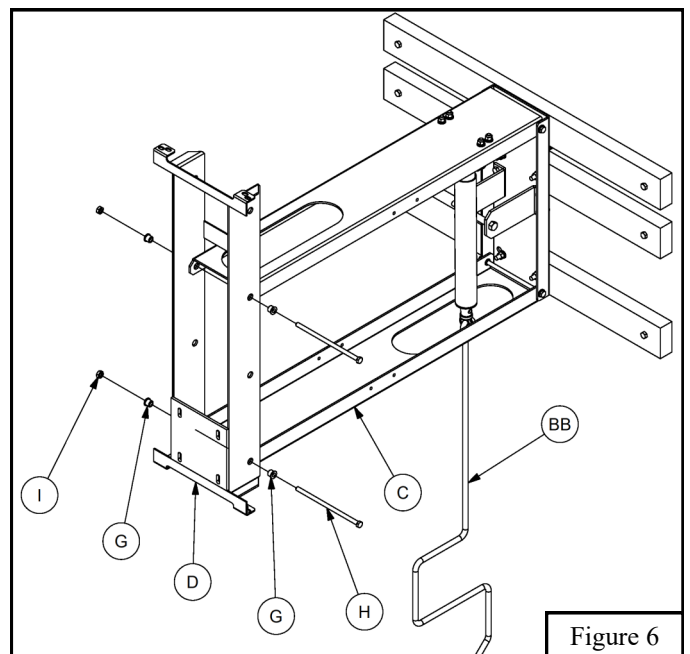

Figure 6
8. Attach the *Backboard "H" Frame* (D) to the upper and lower *Extension Channels* (C) using *Pivot Bushings* (G), $3/8" \times 8"$ *Hex Bolts* (H) and $3/8"$ *Thin Lock Nuts* (I). Tighten the $3/8"$ *Thin Lock Nuts* (I) and then reverse $1/2$ turn to allow free movement. See Figure 6.
9. Using the *Crank Handle* (BB) attempt to raise and lower the *Backboard "H" Frame* (D) by placing the hook on the end of the *Crank Handle* (BB) in the eye on the *Crank* (O) and rotate. If the extension arm assembly doesn't move freely, loosen all pivot points.